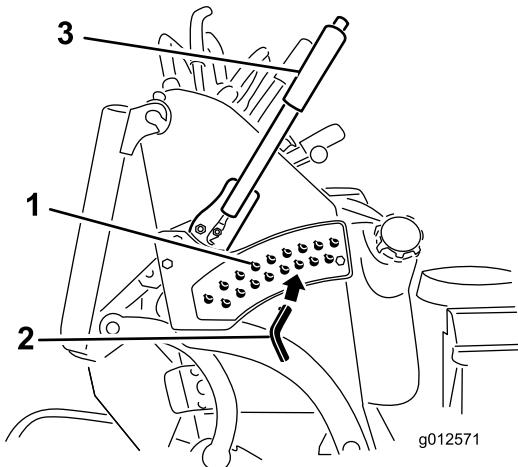

Figure 27
3. Select a hole in the height-of-cut bracket corresponding to the height-of-cut desired and, insert the pin (Figure 27).
4. Push the button on top and lower the height-of-cut lever to the pin (Figure 27).